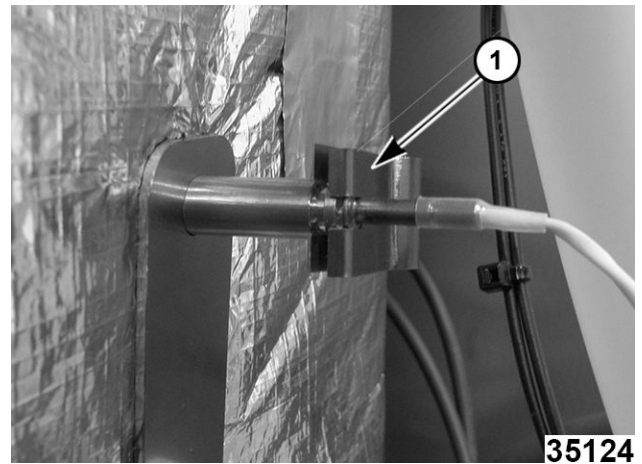

Fig. 54
- Remove holding clip (1, Fig. 54), probe and seal.